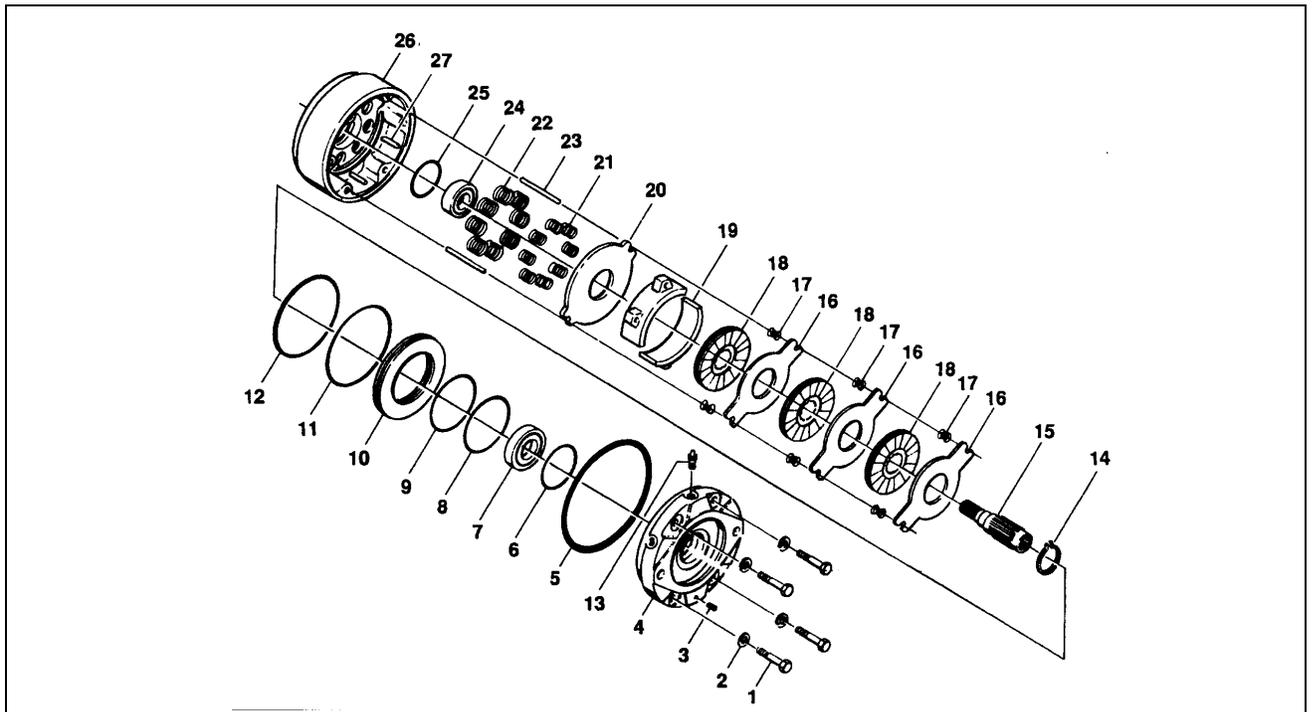

Figure 2-39. Swing Brake Assembly - Mico (Machines Built Prior To May 1992).
2.26 SWING DRIVE BRAKE, MICO (MACHINES BUILT PRIOR TO MAY 1992). (SEE FIGURE 2-39.)